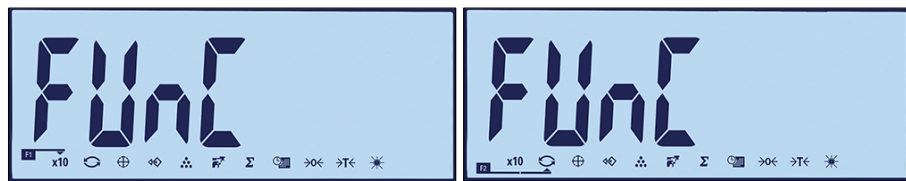

Figure 2-5: Function Keys Assignment Interface
To access the function key assignment interface, press and hold the **F1** or **F2** key when in basic weighing mode. The normal weight display will change to show an array of function icons, as seen in Figure 2-5. The currently selected function is indicated by a small arrow and a line linking it to the F1 or F2 symbol. Use the LEFT and RIGHT direction keys (**F1** and **F2**) to position the arrow next to the desired function. Figure 2-5 shows the X10 function assigned to F1 (left) and the Switch Units function assigned to F2 (right).
Enter setup (refer to Chapter 3, **Configuration**) and access the interface shown in Figure 2-5 at **F2 – Application > F2.1 – Operation > F2.1.1 – Function key 1** and **F2.1.2 Function key 2**. Once the interface screen is displayed, the procedure is as described above under **Assignment**.